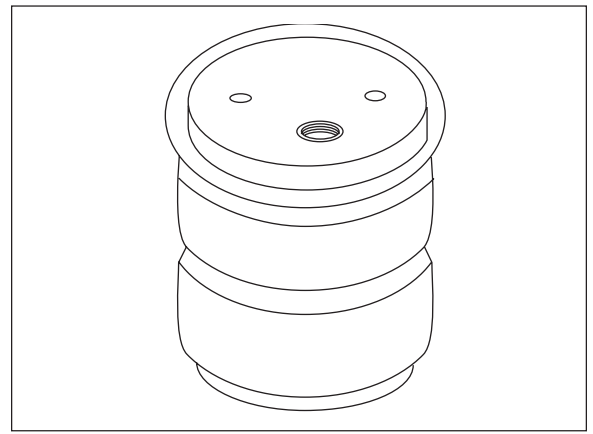

Fig. 4
Set a roll plate (B) on both ends of the air spring (A). The radiused (rounded) edge of the roll plate will be towards the air spring, so that the air spring is “seated” in both roll plates (Fig. 4).